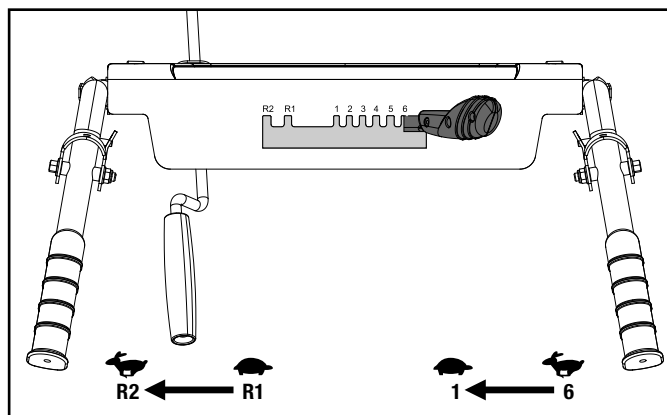

Figure 19
Your snowblower has 6 forward speeds and 2 reverse to regulate forward and backward motion (Fig. 19).
2. Move the speed-control lever to the gear (either forward or reverse) that you require (Fig. 19).
- On flat ground, e.g. asphalt, the shoes should be adjusted to about 1/8 in. (5 mm) (the distance from the auger to the ground) (Fig. 19).